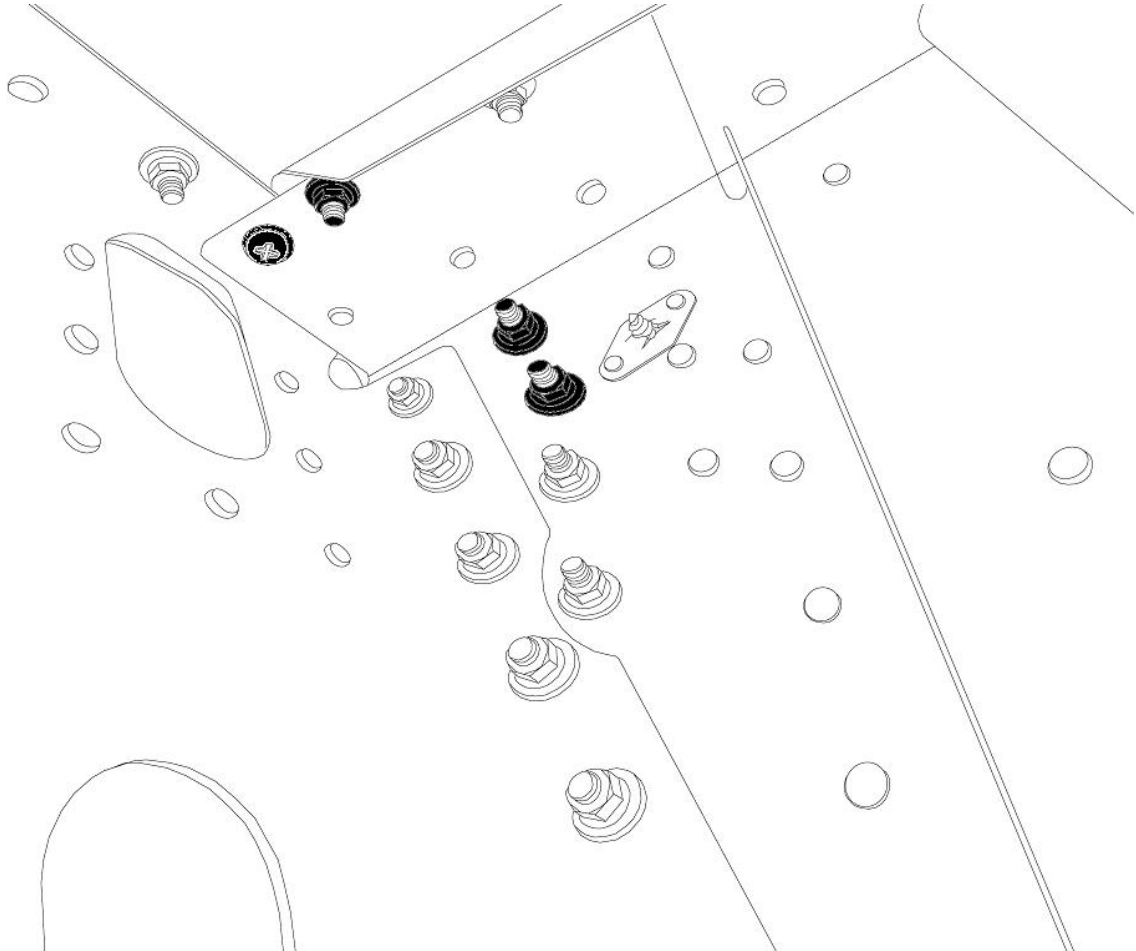

Figure 4 – Inspection Areas
1. Do a detailed visual inspection, using at least a strong light source, of the internal surface of the LHS and RHS Interior Aft Skin Doublers around the fasteners attaching the Horizontal Stabiliser Pivots and Elevator Travel Stiffening Plates. Concentrate inspections around the fasteners highlighted in Figure 4 and look for cracks as shown in Figure 5.